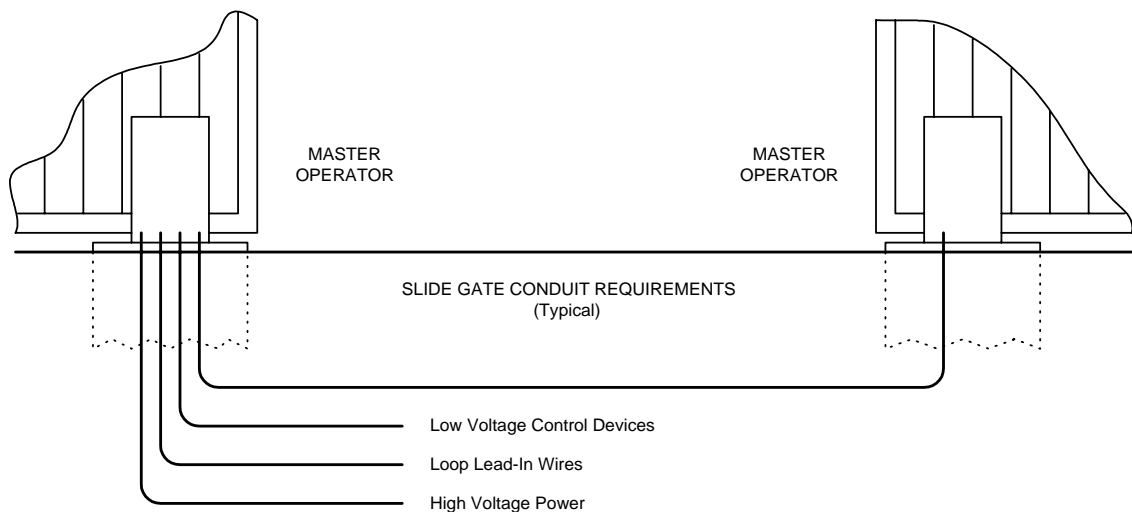

Figure 23
- The conduit requirements shown in figure 23 are for a typical slide gate operator installation (the slave operator is shown for those applications where a slave operator may be used). The conduit requirements for your application may vary from this depending on your specific needs.